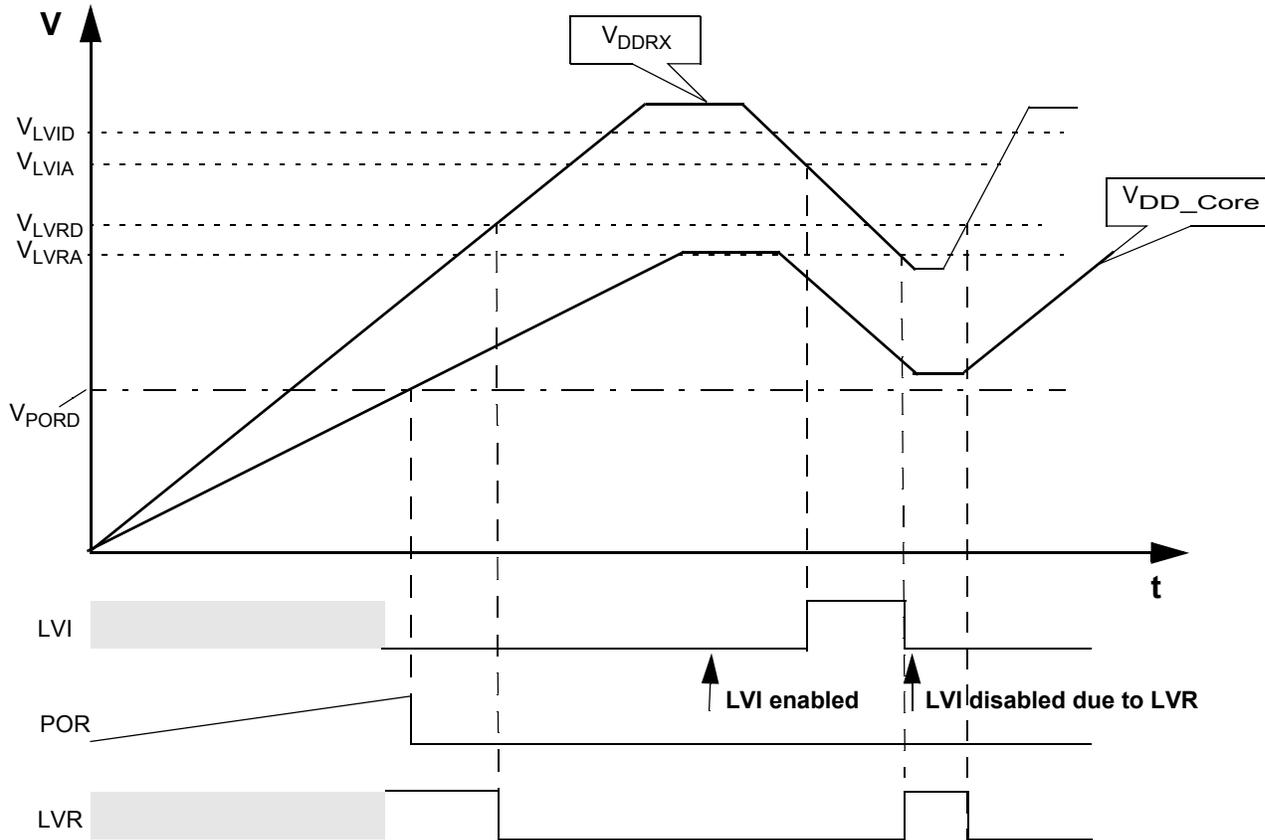

Figure 4. 9S12I32 - Chip Power-up and Voltage Drops (not scaled)
34. Monitors V_{DDRX} , active only in Full Performance mode. MCU is monitored by the POR in RPM (see Figure 4).